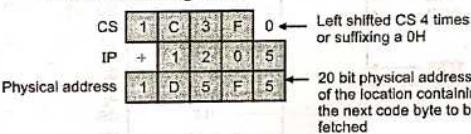

Fig. 2.3.8 : Computation
- The CS as discussed is used to point to the beginning of Code segment and the Instruction pointer (IP) along with CS points to the next instruction to be executed. This is done by shifting the 16-bit value of CS left by 4 bits and then adding the value of IP with the shifted value as shown Fig. 2.3.8.